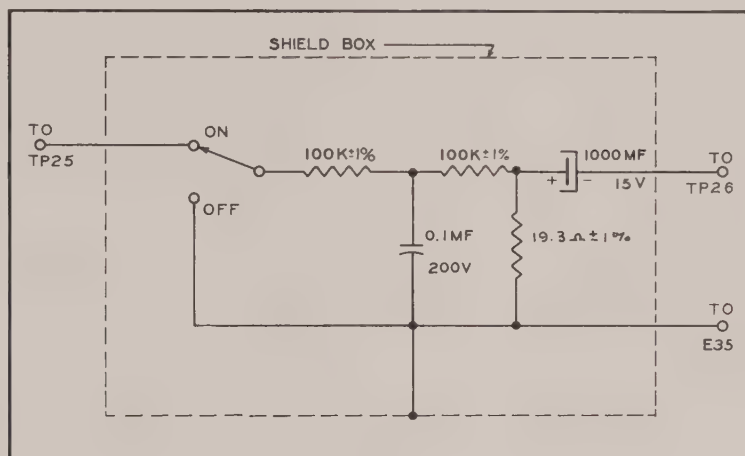

Fig. 5-5 Test Set-Up
C. Checking the Main Amplifier. With the amplifier set-up as in 5-2.3B feed signal from test set-up, shown in Fig. 5-5, which furnishes the necessary input signal to drive the meter to full scale in the $10\mu\text{V}$ position. In making this measurement, the reference amplifier must be functioning properly with the correct output amplitude and waveshape, as shown on main amplifier schematic. With the test source switched off, carefully adjust the Zero Control to zero the instrument. Now switch on